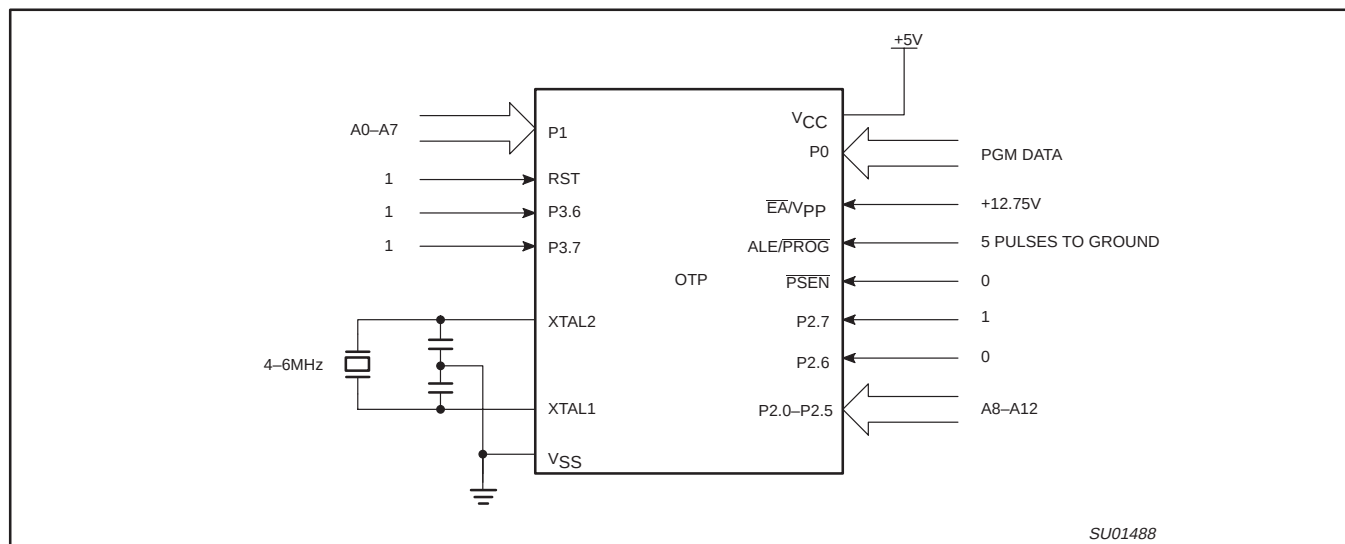
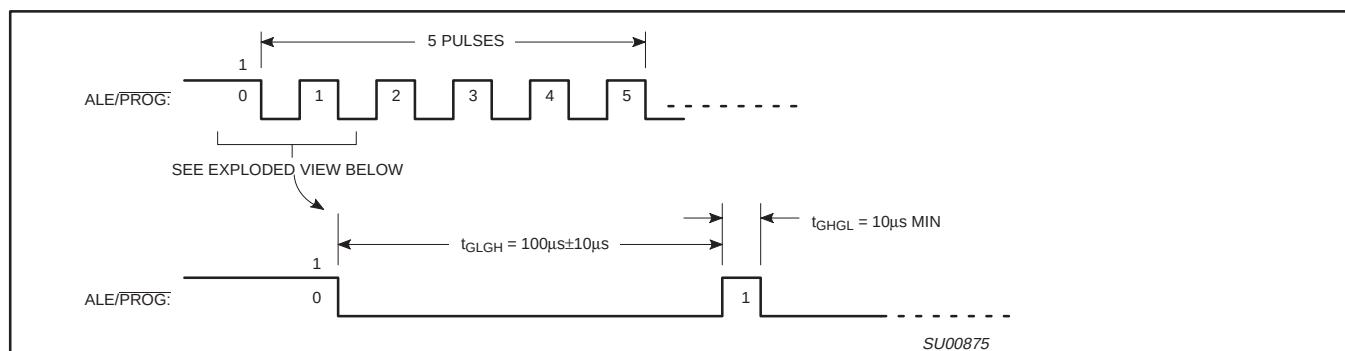
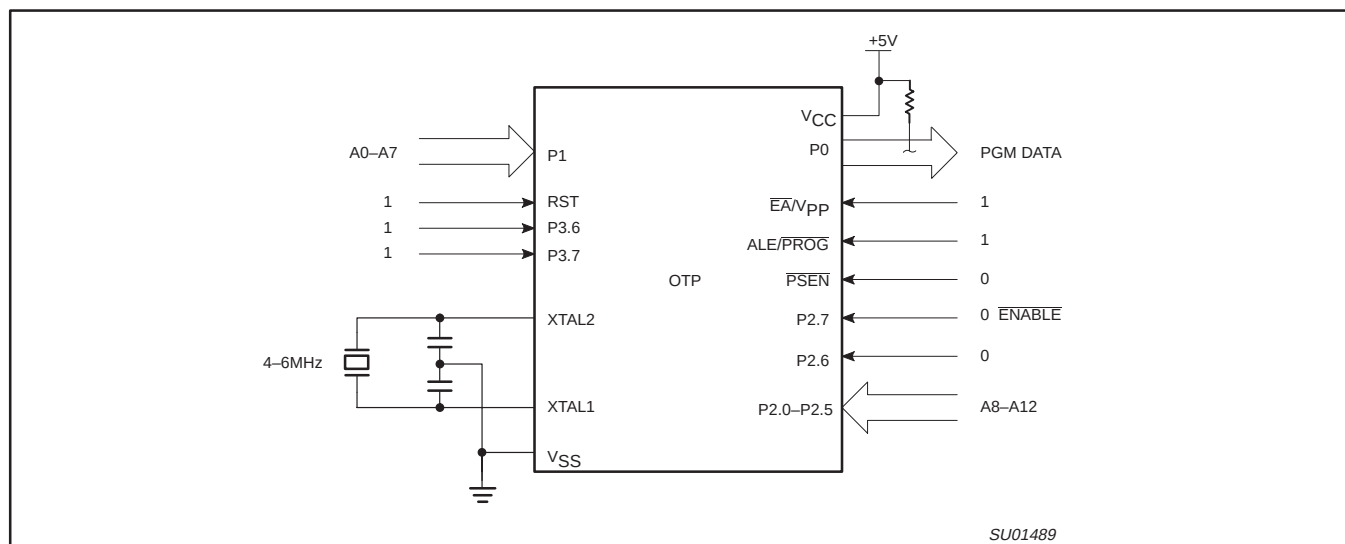

Figure 40. Programming Configuration
Figure 41. $\overline{\text{PROG}}$ Waveform
Figure 42. Program Verification
Table 9 shows the logic levels for reading the signature byte, and for programming the program memory, the encryption table, and the security bits. The circuit configuration and waveforms for quick-pulse programming are shown in Figures 40 and 41. Figure 42 shows the circuit configuration for normal program memory verification.
The setup for microcontroller quick-pulse programming is shown in Figure 40. Note that the device is running with a 4 to 6 MHz oscillator. The reason the oscillator needs to be running is that the device is executing internal address and program data transfers.
The address of the EPROM location to be programmed is applied to ports 1 and 2, as shown in Figure 40. The code byte to be programmed into that location is applied to port 0. RST, $\overline{PSEN}$ and pins of ports 2 and 3 specified in Table 9 are held at the 'Program Code Data' levels indicated in Table 9. The ALE/ $\overline{PROG}$ is pulsed low 5 times as shown in Figure 41.
If security bits 2 and 3 have not been programmed, the on-chip program memory can be read out for program verification. The address of the program memory locations to be read is applied to ports 1 and 2 as shown in Figure 42. The other pins are held at the 'Verify Code Data' levels indicated in Table 9. The contents of the address location will be emitted on port 0. External pull-ups are required on port 0 for this operation.
* FOR PROGRAMMING CONFIGURATION SEE FIGURE 40.
FOR VERIFICATION CONDITIONS SEE FIGURE 42.